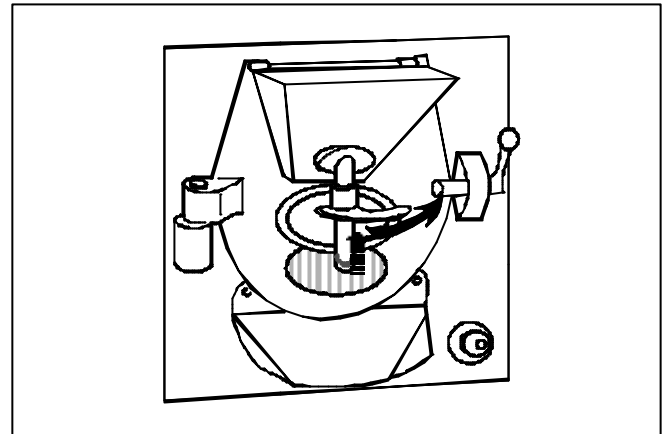

Figure 7
- Lift the handle and the ice cream door then lock the ice cream door in the top position by turning the handle right until it stops (ref Fig. 7).